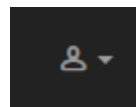

Figure 10. Partner Portal (Profile icon)
3. Hover the mouse cursor over the Profile icon in the upper right-hand corner of the web page (Figure 10 \(page 52\)). Click the **Account** option.